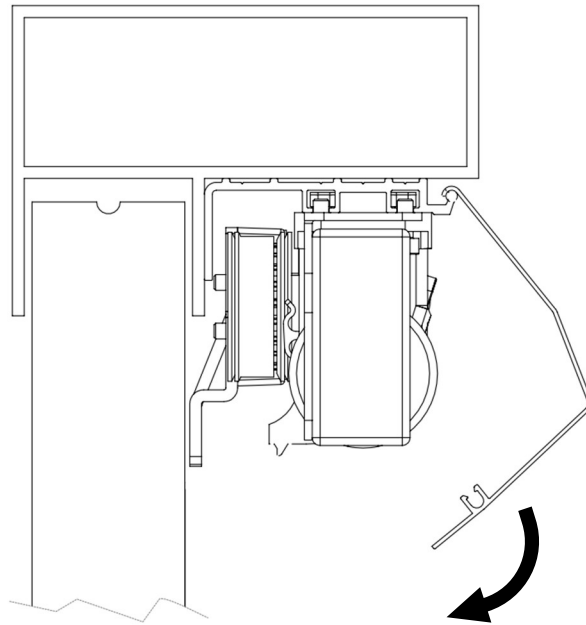

Figure 61: Clip the cover over the base. Endcaps not shown.
1. Clip the cover over the base to cover the MultiDrive mechanism as shown in Figure 61.